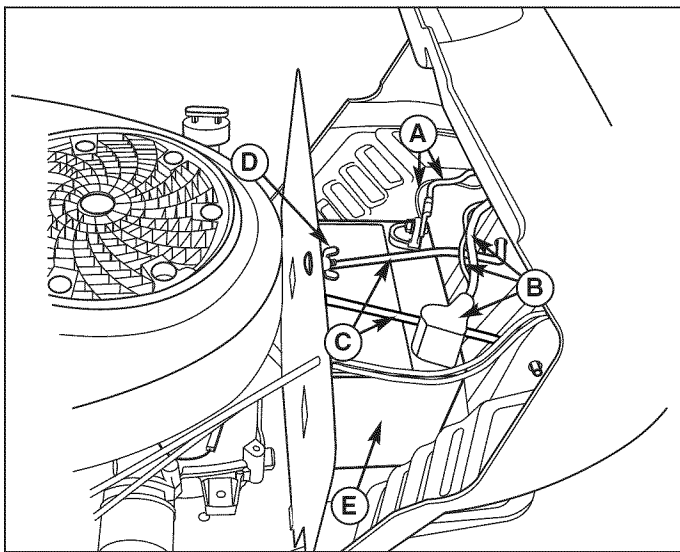

Figure 9. Battery Maintenance
1. Disconnect the cables from the battery, negative cables first (A, Figure 9) then the cover & positive cables (B).